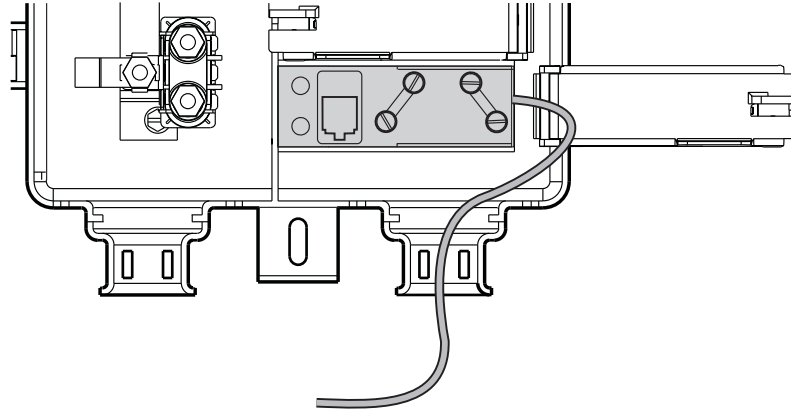

Figure 8. Inserting the POTS Wires
- 1 Thread the subscriber wire pairs through the hole made earlier in the right-hand rubber grommet (see Figure 8).